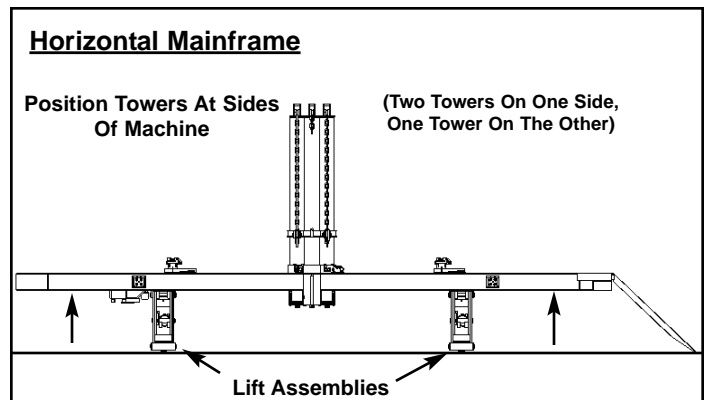

Figure 50
1. When raising and lowering both ends of machine simultaneously, position two towers on one side of machine and one tower on the other. (See Figure 50 and 51.) If more towers are installed, evenly distribute the number of towers from side to side.
4. Mainframe should be in a horizontal position prior to using the lift assemblies simultaneously. (See Figures 50 and 51.)